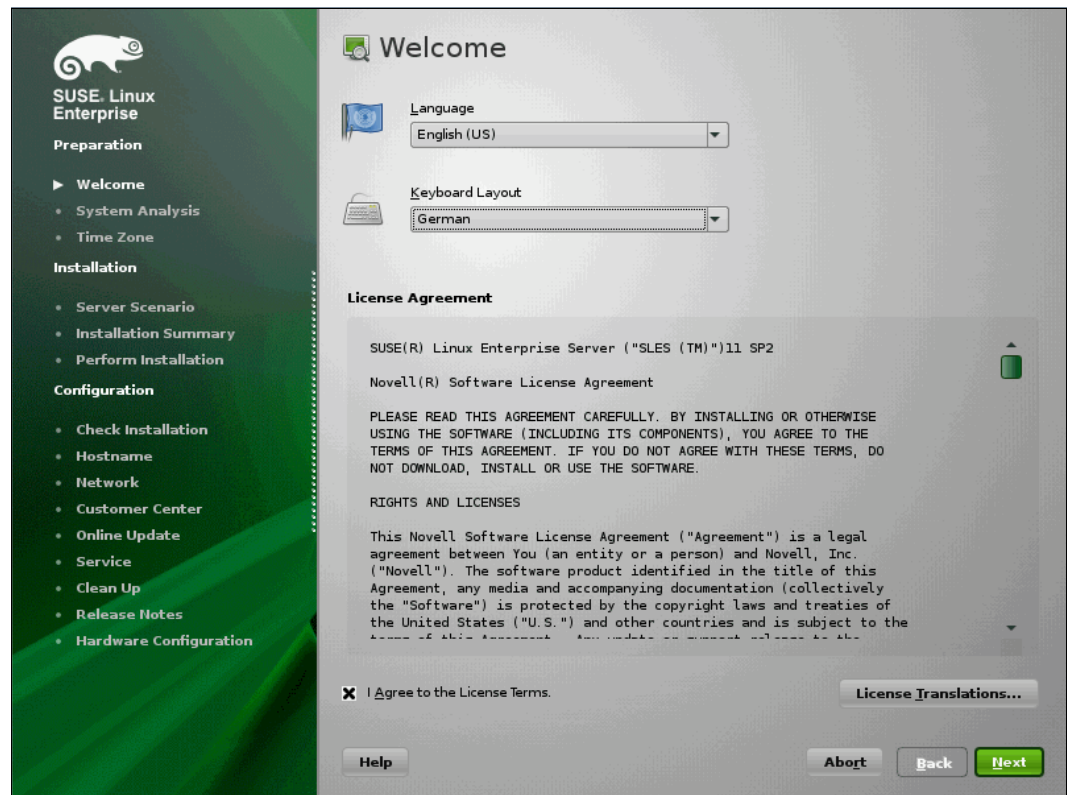

Figure 9-40 Welcome panel
- After SLES 11 SP2 loads, as shown in Figure 9-40, select your preferences, accept the license, and click **Next**.